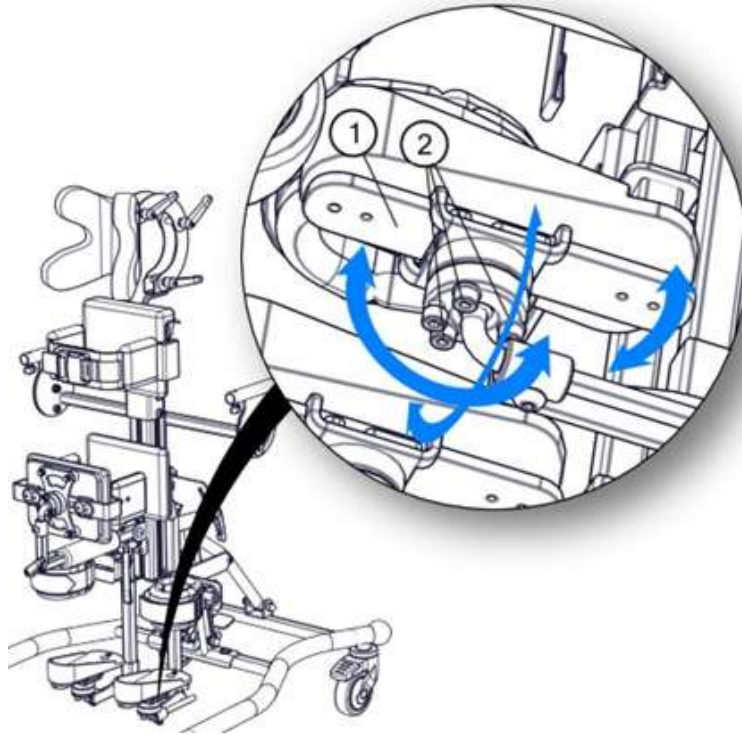

Fig. 15
Fig. 15 Adjustment of the inclination of the foot platforms (1) is possible by loosening three screws (2). The adjustment allows the platform to be angled in 3 planes. When the adjustment of the platform position is complete, tighten the screws (2).